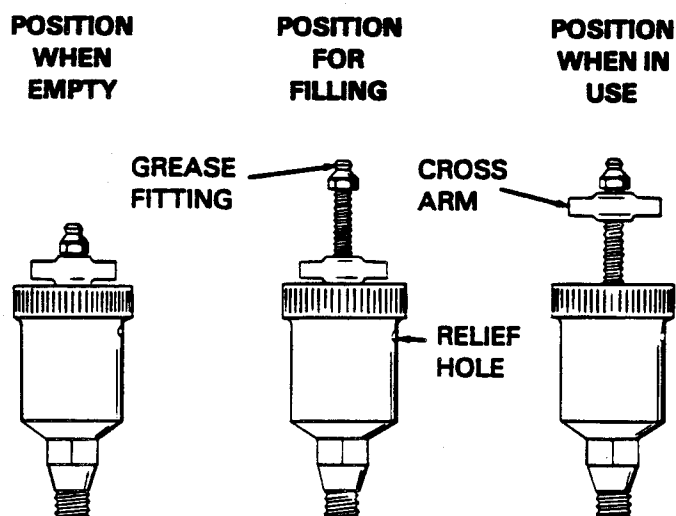

Figure 3. Automatic Lubricating Grease Cup
Before removing the seal assembly, turn the cross arm on the seal grease cup (6) clockwise until it rests against the cover (see figure 3). This will prevent the grease in the cup from escaping after the seal is removed.
Before starting the pump, fill the grease cup through the grease fitting with a good grade of No.2 pressure gun grease until grease escapes from the relief hole. Turn the grease cup arm counterclockwise until it is at the top of the stem; this will release the spring to apply grease to the seal (see figure 3).